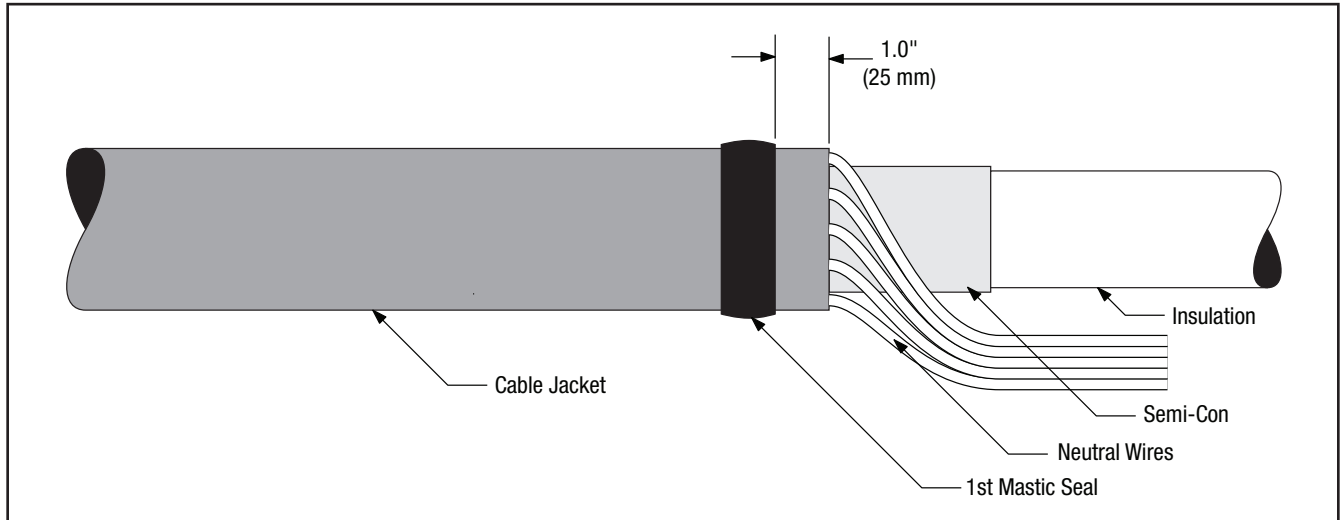

Figure 2
- 1.3 Select the roll of 1" (25 mm) wide 3M™ Scotch-Seal™ Mastic 2229 from the kit. Cut a length of the mastic long enough to wrap around the cable jacket. Remove the release liner from the mastic and, using a light tension, apply a single wrap of mastic around the cable jacket 1" (25 mm) from the cut edge. (*Figure 2*)